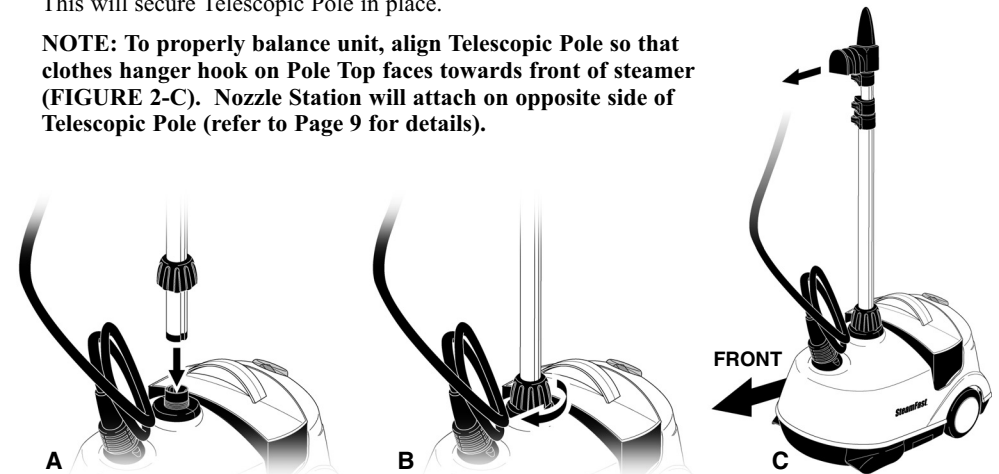

FIGURE 2
1. Insert SECTION 4 of Telescopic Pole into Pole Base (FIGURE 2-A).
2. Tighten coupling on Telescopic Pole by turning it in a clockwise direction (FIGURE 2-B). This will secure Telescopic Pole in place.
NOTE: To properly balance unit, align Telescopic Pole so that clothes hanger hook on Pole Top faces towards front of steamer (FIGURE 2-C). Nozzle Station will attach on opposite side of Telescopic Pole (refer to Page 9 for details).